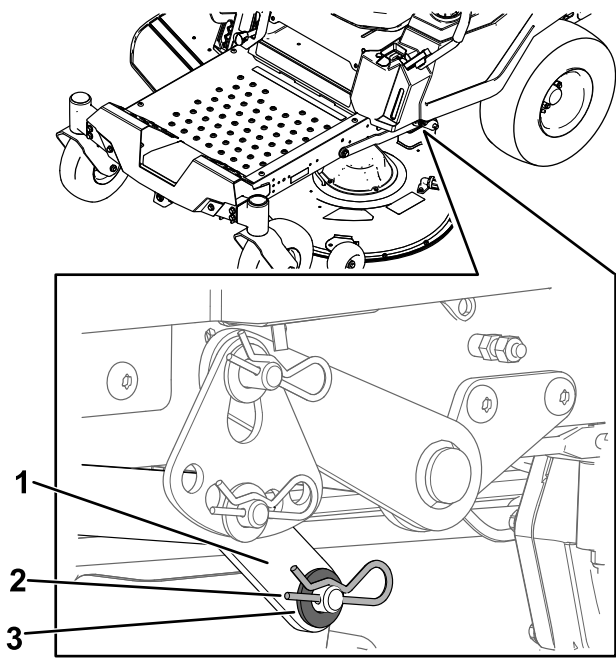

Figure 64
6. On 1 side of the machine, remove the washer and hairpin cotter from the deck pin (Figure 64).
7. Remove the lift arm from the deck pin (Figure 64).
5. On 1 side of the machine, lift the rear of the mower deck and install the lift arm to the deck pin (Figure 64).
6. Install the lift arm using the washer and hairpin cotter (Figure 64).